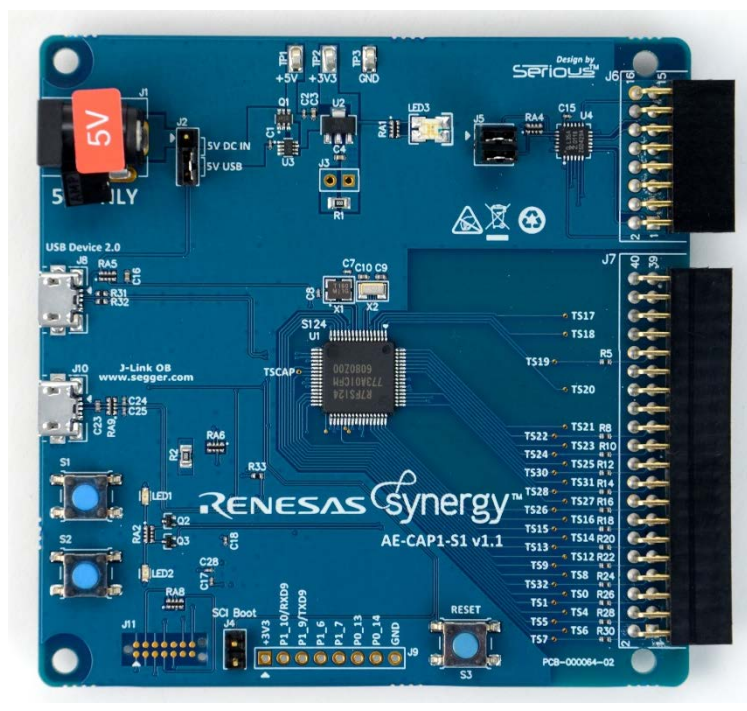

Figure 1 AE-CAP1-S1 Target Board
- AE-CAP1-S1 Target Board with header connectors for attachment of capacitive touch application boards, including a J-Link Emulator/Debugger installed on-board (Figure 1)